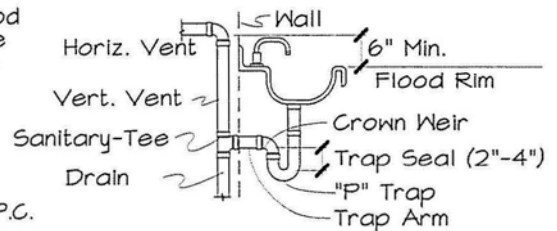

Figure V-2 TYPICAL SINK
8. Horizontal trap arms, connecting with a vertical stack or waste, shall enter through sanitary tee branches. A trap arm is that portion of a fixture drain between a trap and a vent. (See Figure V-2 below for typical fixture elements.) (See Table below for maximum lengths of trap arms.)
4. Each vent shall rise vertically to a point not less than 6" above the flood rim of the fixture served before offsetting of the fixture served before offsetting horizontally. Where prohibited by structural conditions and this is impossible, the vent piping shall be installed with approved drainage fittings, material and sloped to drain. (Section 905.3 U.P.C.) See Figure V-2 to for a general illustration of these requirements.